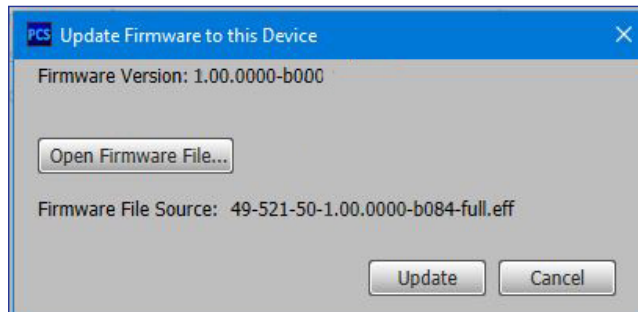

Figure 61. Update Firmware
13. Click **Update** on the **Update Firmware** dialog box (see figure 61). This uploads and verifies the new firmware onto the connected device. The **Installing Firmware** progress field shows the progress of the upload.